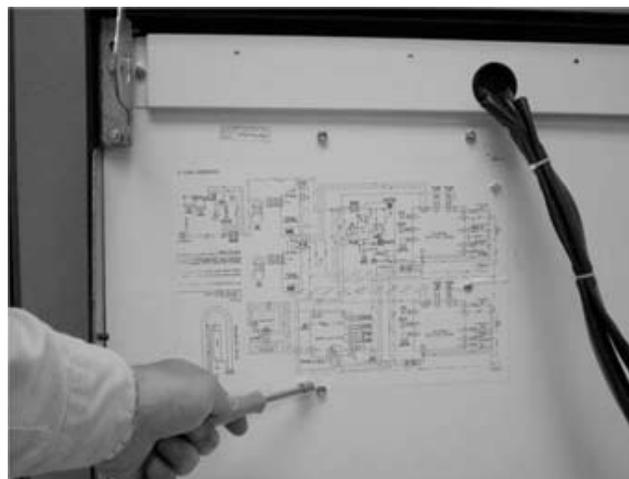

Figure 76.
- D. Tighten screws on the back of the panel with a nut driver, as shown in Figure 76.